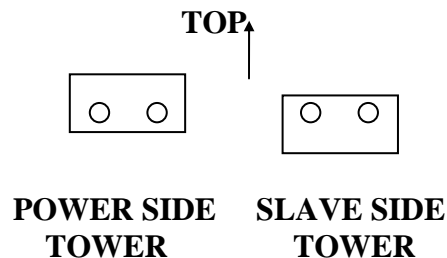

Figure 17 – Carriage Stops
7. Check bolts on the carriage stops for tightness. Note: The carriage stop on the slave side tower should have the thicker side facing downwards, and on the power side facing upwards. Refer to **Figure 17**.